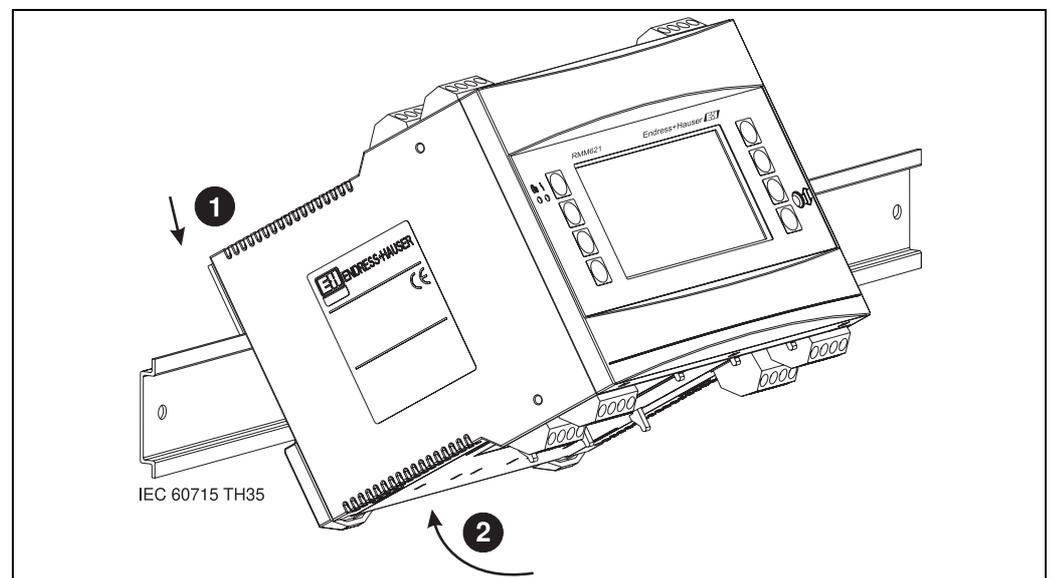

Fig. 2: Mounting device on top-hat rail
First remove the plug-in terminals from the device slots. Now snap the housing onto the top-hat rail by first hanging the device on the top-hat rail and then pressing it down gently until it engages (see Fig. 2, items 1 and 2).